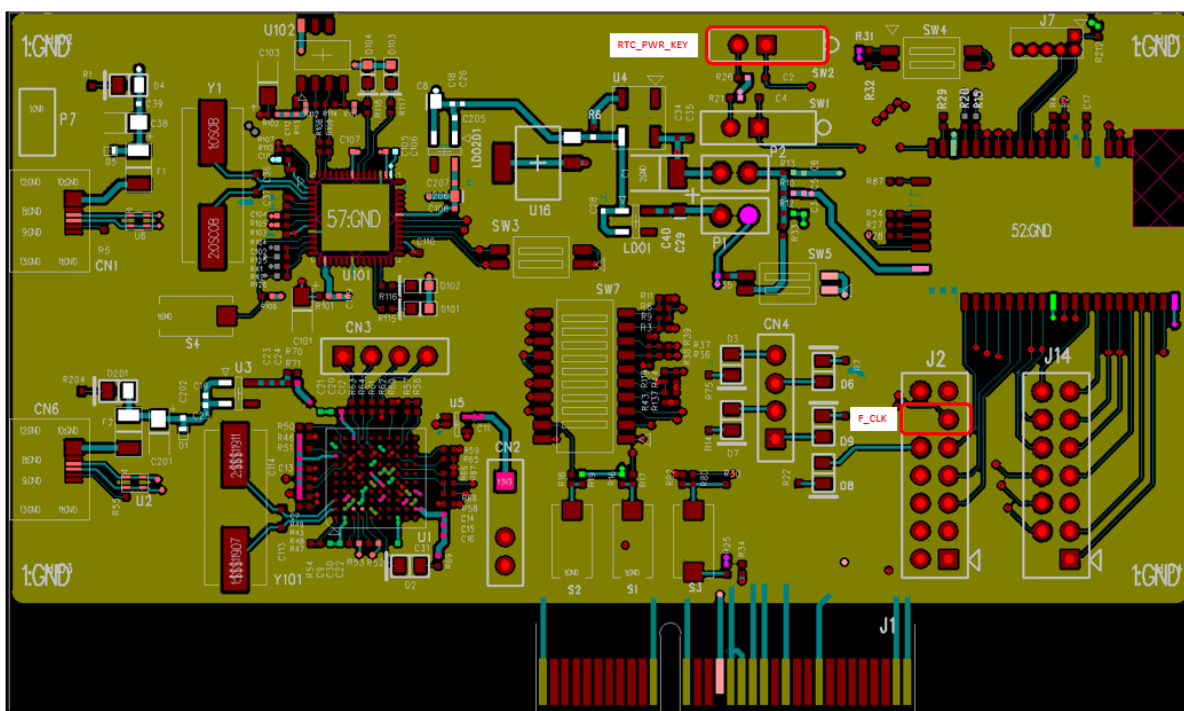

Figure 21: Recovery Point in the EVK
- Connect two pins: Pin 11(F_CLK) and P12(GND) of J2. See Figure 21